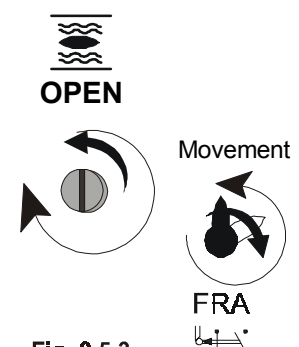

Fig. 8.5.3
- If, by accident, it has been carried on turning past the tripping of the FRA microswitch, turn spindle A in the opposite direction (clockwise) until the B spindle returns to vertical. Figure 8.5.3)